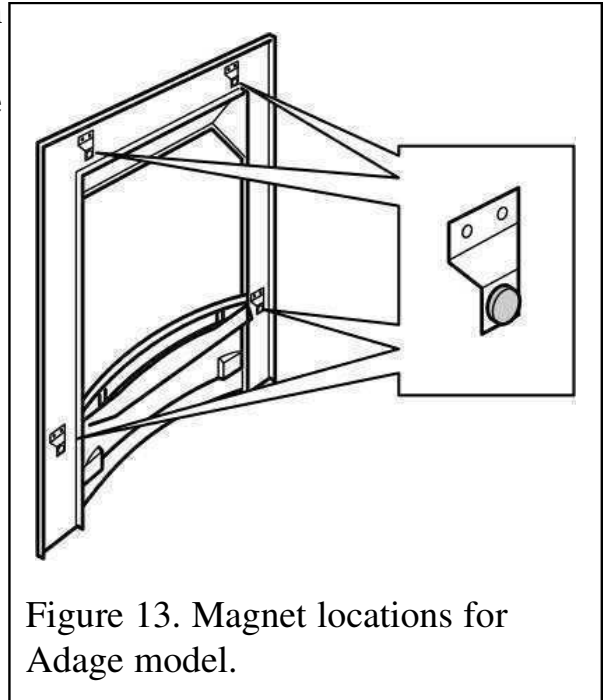

Figure 13. Magnet locations for Adage model.
1. Removing the fascia may have moved the magnets used to fix the fascia to the heater. There should be a magnet on each of the four raised tabs on the rear of the fascia (See figure 13).